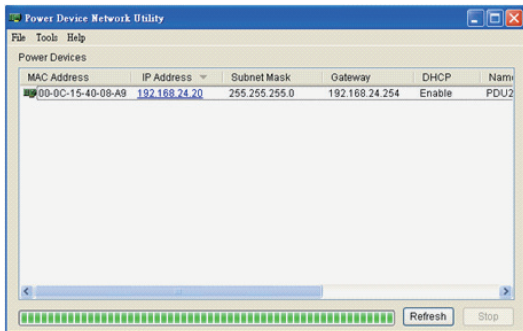

Figure 4. Equipment List
Step 1. Select the appropriate ATS PDU from the Equipment List (Shown in Figure 4.).